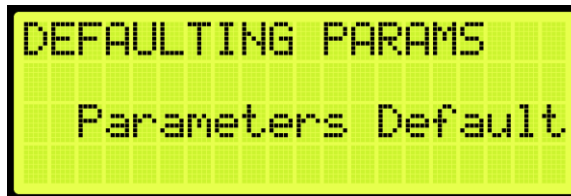

Figure 463: DEFAULTING PARAMS Menu – Parameters Defaulted
- When the system has completed defaulting all parameters, the DEFAULTING PARAMS menu displays Parameters Defaulted (See Figure 463).
6. When the system has completed defaulting all parameters, the DEFAULTING PARAMS menu displays Parameters Defaulted (See Figure 463).